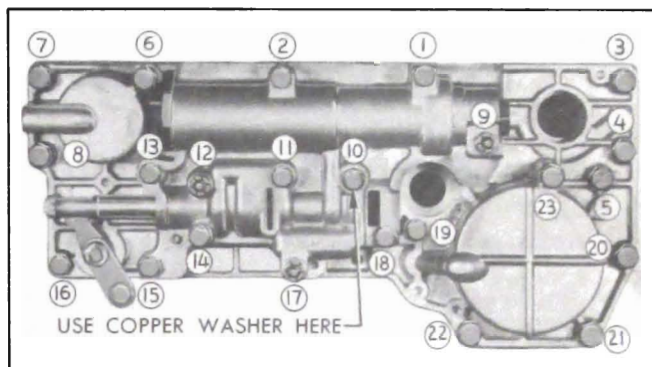

Figure 5-96—Valve and Servo Body Bolt Tightening Sequence
4. Install various length bolts with lock-washers according to depth of holes through valve and servo bodies. *Use copper washer on center bolt adjacent to suction pipe opening. See figure 5-96.*
5. Tighten all bolts to 5 ft. lbs. torque in the numerical sequence shown in figure 5-96. Repeating the same sequence, tighten all  $\frac{1}{4}$ " bolts and nuts to 11-15 ft. lbs. torque and all  $\frac{5}{16}$ " bolts to 15-20 ft. lbs. While tightening bolts and nuts adjacent to the shift control valve, operate the valve to make certain that it is not binding—it may be necessary to adjust some bolts to low limit on torque to prevent valve binding.